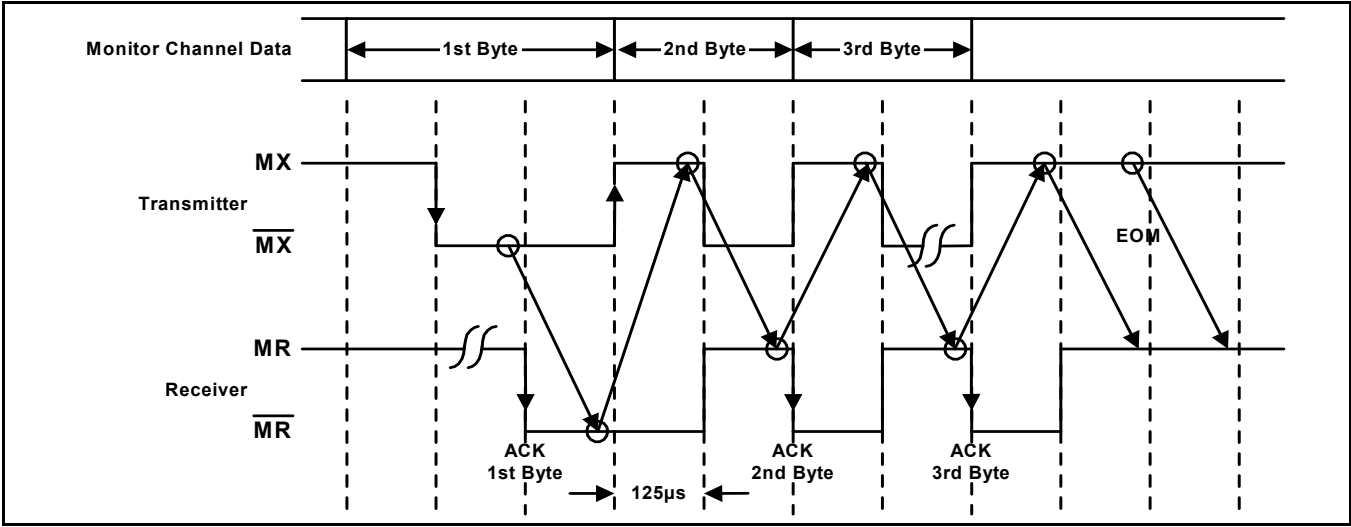

Figure 11 - Maximum Speed Monitor Handshake Timing
The Monitor (M) channel (see Figure 11) loads the Le88266/286 device internal registers, reads the status of the device and the contents of the internal registers, and provides supplementary signaling. Information is transferred on the Monitor Channel using the MR and MX bits of the third (SC) channel to provide a reliable method of data exchange between the higher level processor and the Le88266/286 device (see Figure 11).
- Figure 11 shows that transmission is initiated by the transition of the transmitter MX bit from the inactive to the active state. The transition coincides with the beginning of the first byte sent on the monitor channel. The receiver acknowledges the first byte by setting MR bit to active and keeping it active for at least one more frame.
- To obtain maximum data transfer speed, the transmitter anticipates the falling edge of the receiver's acknowledgment as shown in Figure 11.